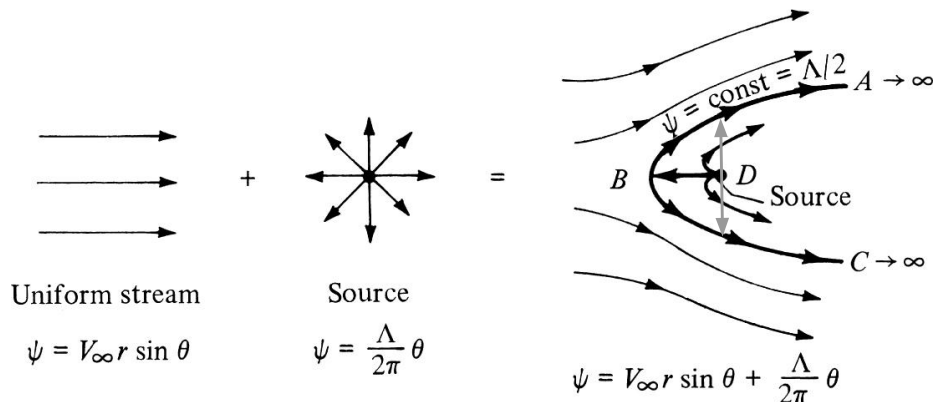

Fig. 2: Freestream+source superposition showing dividing streamline (Source: Anderson)
- Dividing streamline diameter  $D$  (gray arrow in Fig. 2) and its **length in meters**